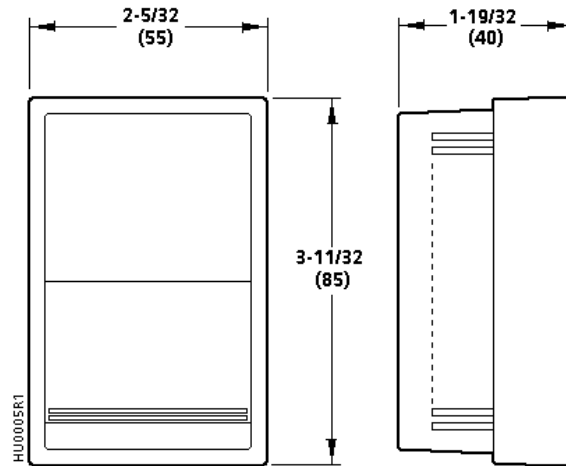

**Figure 8. Hygrostat Construction.**
Item numbers in parentheses are called out in Figure 8 and Table 2. Clean the membrane element (13) with a soft, dry brush when dirt or dust accumulates. The hygrometer should not be totally disassembled in the field. The only parts which should be replaced are items (5) through (7), (10) through (13), and (16) in Table 2 and Figure 8. As an initial check, make certain that there is 15 to 25 psig of **clean, dry** supply air. Use a pressure gauge and rubber tubing to measure control pressure at the test screw (15).
**Table 2. Parts List for Hygrostat (Item Numbers See Figure 8).**